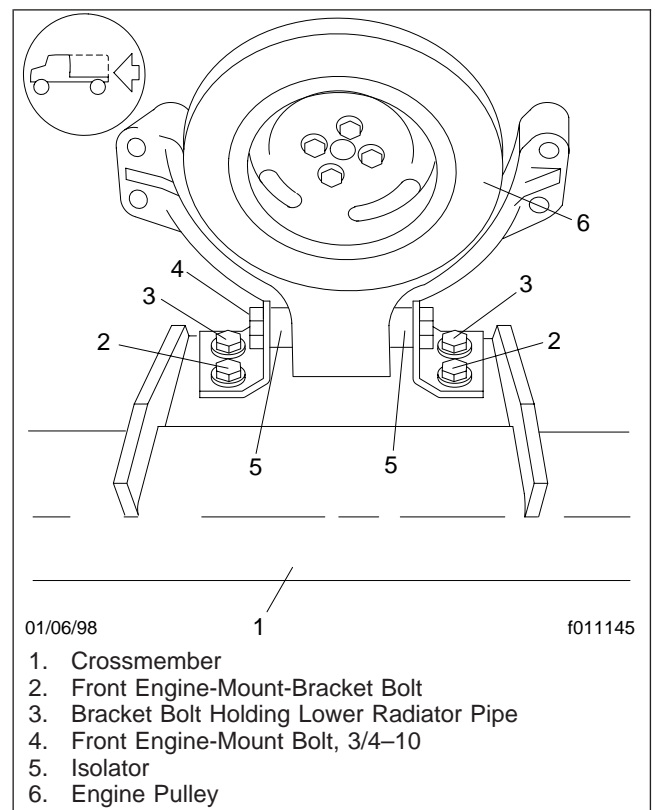

Fig. 2, Front Engine Mount (ISB rear-engine chassis built before 2002)
- Check the 3/4-10 front engine-mount bolt. See Fig. 2. Tighten it 95 lbf-ft (128 N·m).